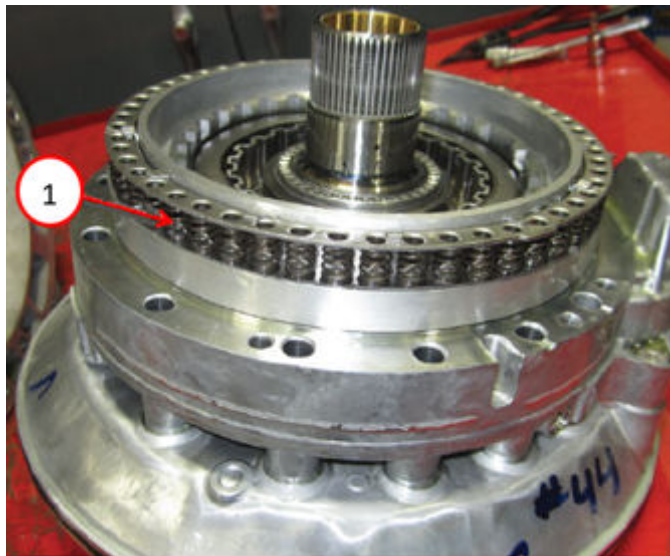

Fig. 37
55. Install the B clutch damper spring on the assembly Fig. 37.